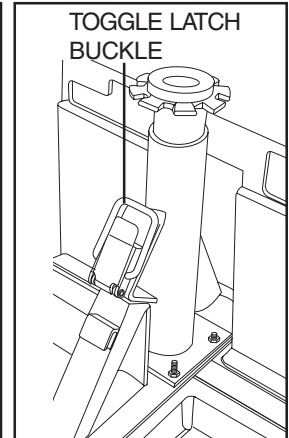

Figure 18B. Buckle Secured
2. Position the toggle latch buckle over the top of the toggle latch. See figure 18B.